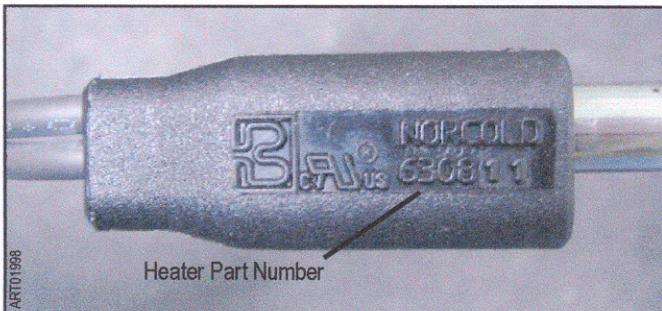

Figure 1. Over Molding
- Over molding - the new heaters have a black plastic over molding at the end of the heater where the wires enter the heater body. (Figure 1) The heater part number is molded into the over molding.